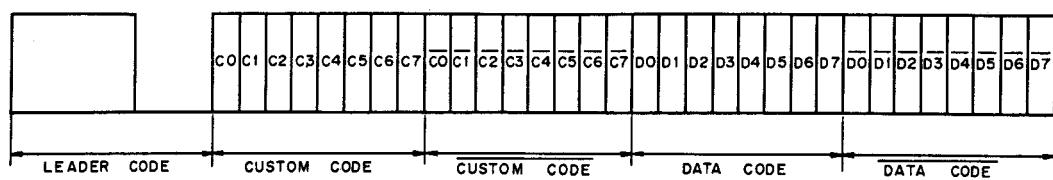

Fig. 4-11 Format and Data Structure of the Remote Control Signal
- The signal format must conform to that of  $\mu$ PD6102G. (See figure 4-11.)
The remote control signal is received at the remote control signal receiver section of the SA-V70, and sent through the SA-V70's internal waveform shaping circuit and buffer to the REM IN terminal of the PL-V70. The data is then applied via a protection circuit made up of D15 through D17, to pins 7 and 21 of Q2. The input signal pattern at this stage is as shown in figure 4-11. This signal is decoded by Q2(PDE003) into the logical format described in figure 4-12 and output to Q1 (PD 6037), the system control IC. The signal is sent for at least 96 msec. If you keep pressing the commander key, however, the signal is continuously sent from Q2 until the commander key is released.